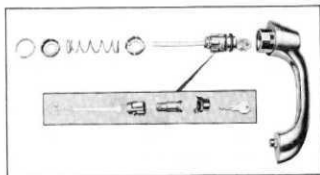

Fig. 2—Layout of Lock Parts
9. Figure 2 shows lock parts layout.